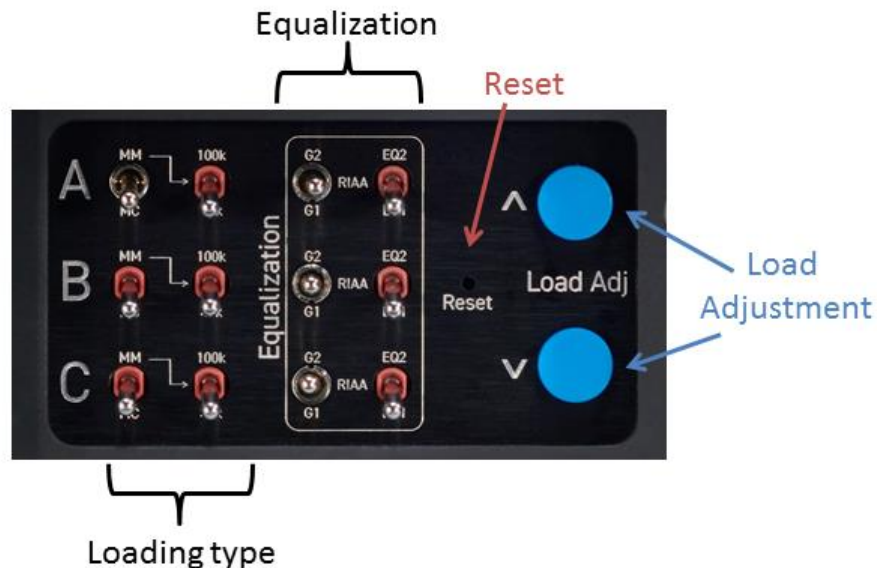

Figure 3B – Center-lower Section with Door Open
2.2.4 Center-Lower Section (See Figure 3B)